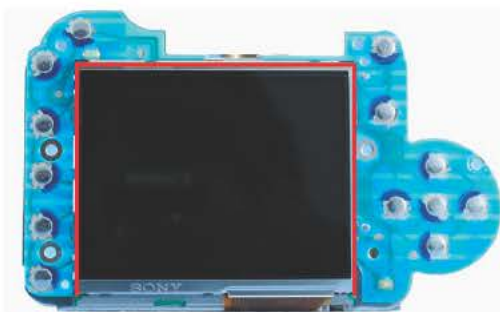

Fig. 129
(2) Weaken the adhesiveness of the border between the back cover and the TFT display window as indicated in red (Fig. 129) with solvent such as Ethanol and remove the TFT LCD Ass'y.